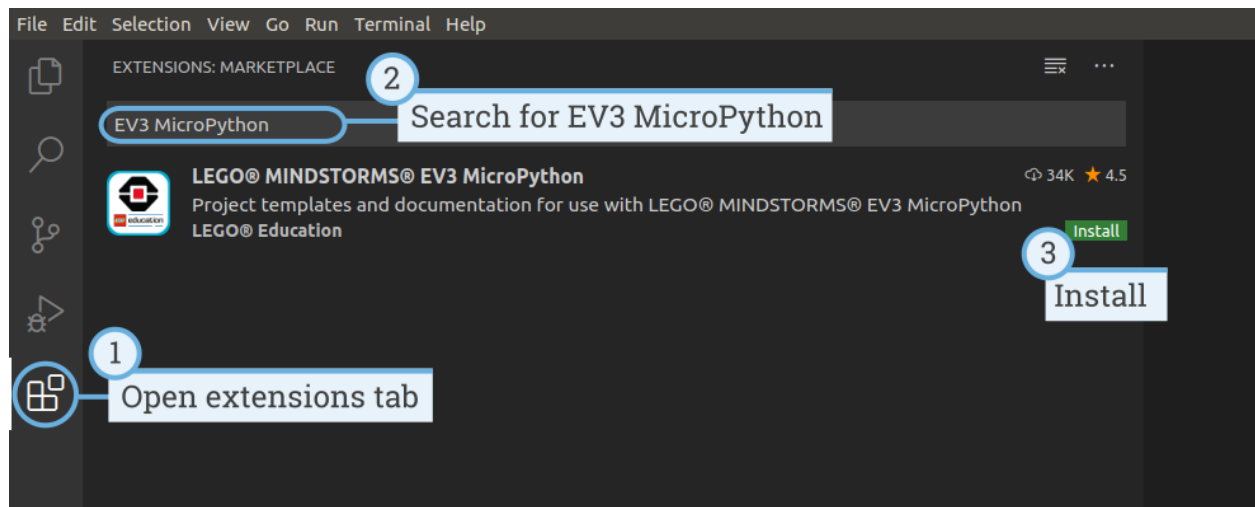

Figure 1.2: Installing the extension from the Visual Studio Code marketplace
5. Install the EV3 MicroPython extension as shown in Figure 1.2.